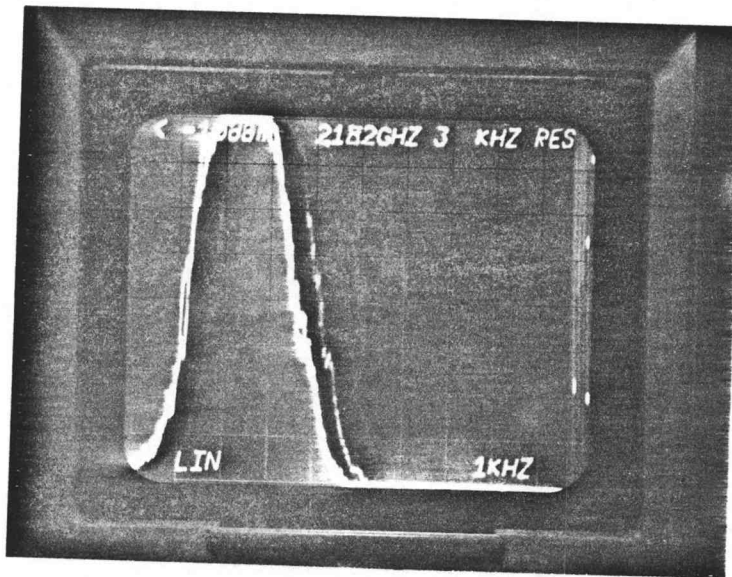

Fig. 7
- H. This is for Fig. 7 if your 2nd LO looks like this, reject it now before anymore time is wasted. It has FM.